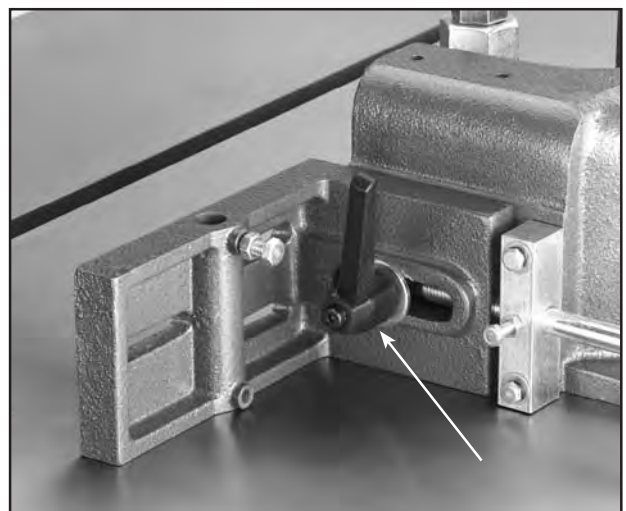

Figure 16. Adjustment handle.
2. Insert the adjustment handle (**Figure 16**) into the fence bracket, and thread it into the guard body.